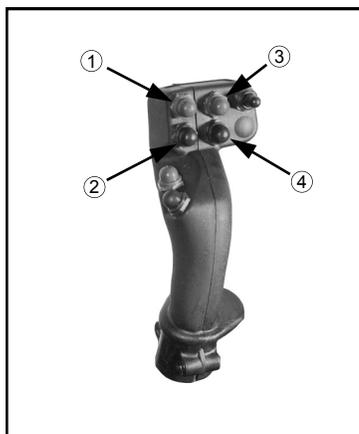

FIG 5.12
To increase or decrease the angle of each individual boom level, depress the left or right “GRAY” (UP) or the left or right “RED” (DOWN) buttons on the hydrostatic drive handle (fig. 5.12, items 1 thru 4). While depressed, these buttons activate the level cylinders connecting either boom to the transom (fig. 5.11).